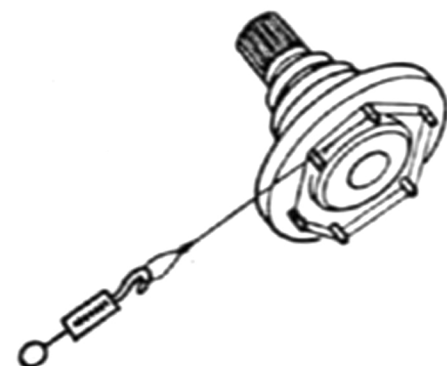
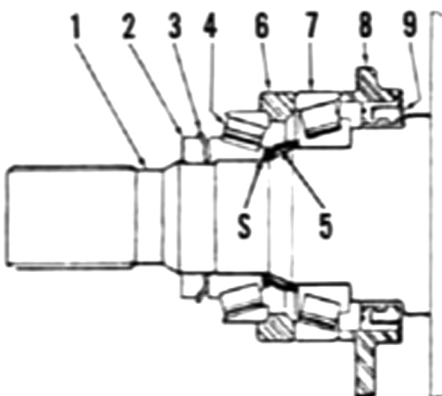

Fig. 8—Use a cord and spring scale to check pounds pull needed to keep outer axle rotating in bearing assembly. Refer to text.
Fig. 9—View showing bearing assembly installed on outer axle shaft.
cord as shown in Fig. 8. Check amount of pull on scale needed to keep axle shaft rotating. Amount of pull required should be 1 to 8 pounds. If the seal is not held away from the outer bearing, seal drag will increase the amount of pull by about 4 pounds. Add or remove shims as required to correct the bearing adjustment. Remove the nut (2—Fig. 9), pack cavity between inner and outer spacers with grease and install lockwasher (3). Apply grease to contact faces of nut and lockwasher and tighten nut to a torque of 310-370 ft.-lbs. Bend tab of lockwasher into one of the notches in the nut. Wrap the assembly in clean paper and lay it aside for later installation.